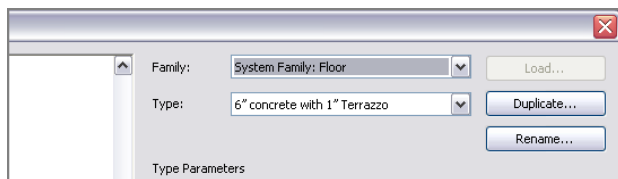

FIGURE 10.54: You must add a floor at the Level 3 floor plan for the stairs to have a landing.
5. Select the 6" (152mm) concrete with 1" (25mm) Terrazzo floor system from the Type drop-down list, as shown in Figure 10.54.